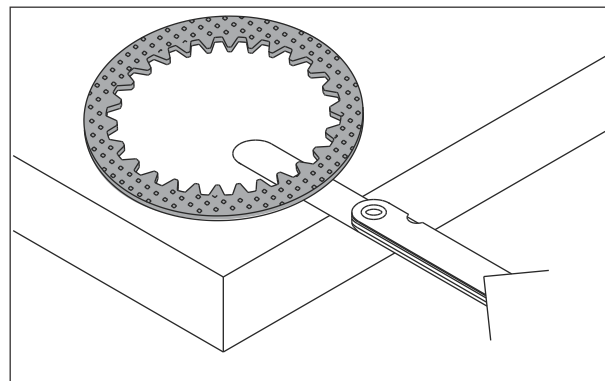

Fig. 3.18
- Inspect the distortion of plate clutch driven using a feeler gauge as shown. (Fig. 3.18)